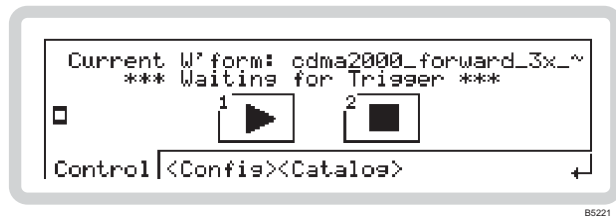
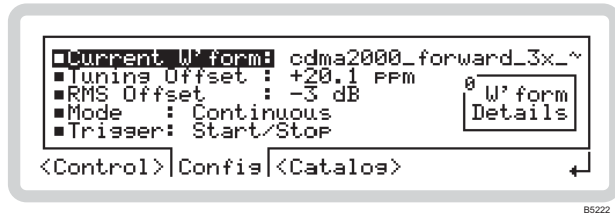
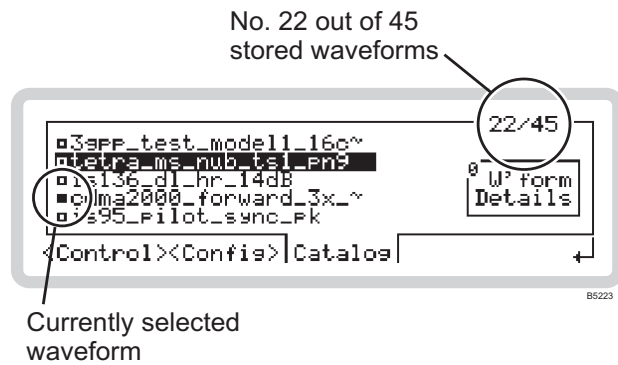

Fig. 3-28 ARB waveform
Fig. 3-29 ARB configuration
Fig. 3-30 ARB catalog
- 2 Press to show the main screen, and touch the soft box to select the function. Touch and press to view the ARB waveform menu (Fig. 3-28).
From the ARB control menu of Fig. 3-28, touch <Config> or press to display the ARB configuration screen (Fig. 3-29).
From the ARB control menu of Fig. 3-28, touch <Catalog> or press <TAB> to display the catalog screen (Fig. 3-30).